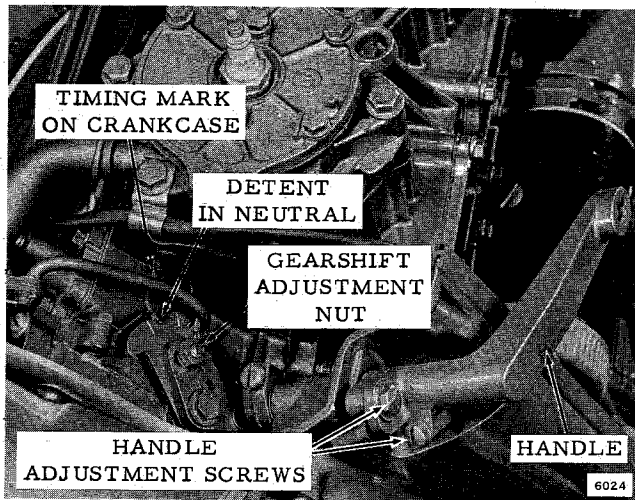

Figure 6-37. Gearshift Detent
When the detent spring rests in the "valley" between the two scribe marks on the detent adapter, the gears should be in neutral. See Figure 6-37.
b. Place gear shift handle in neutral. Handle should be aligned parallel to the drive and crankshafts. To adjust, loosen the shift handle clamping and adjustment screws. Move lever as required and tighten screws. See Figure 6-37.